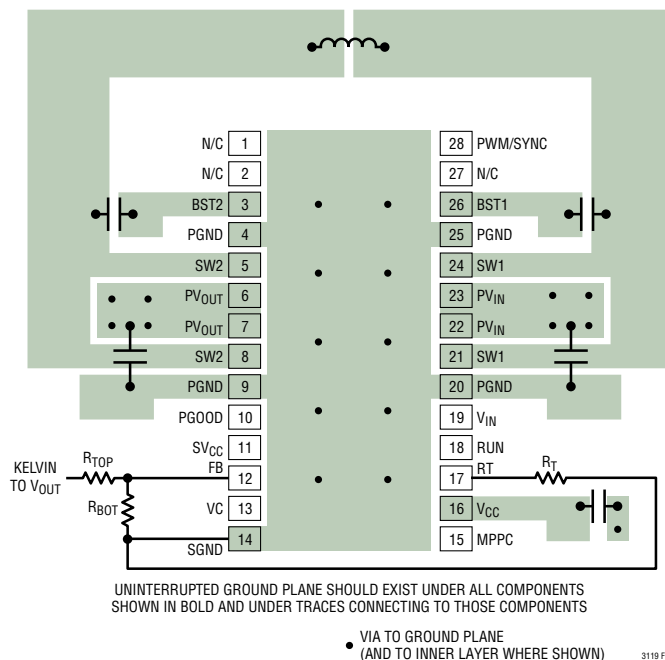

Figure 11. PCB Layout Recommended for the FE Package
The LTC3119 buck-boost converter switches large currents at high frequencies. Special attention should be paid to the PC board layout to ensure a stable, noise-free and efficient application circuit. Figures 11 and 12 show a representative PCB layout for each package option to outline some of the primary considerations. A few key guidelines are provided below:
1. The parasitic inductance and resistance of all circulating high current paths should be minimized. This can be accomplished by keeping the routes to all bold components in Figures 11 and 12 as short and as wide as possible. Capacitor ground connections should via down to the ground plane by way of the shortest route possible. The bypass capacitors on PV_{IN} , PV_{OUT} and V_{CC} should be placed as close to the IC as possible and should have the shortest possible paths to ground.
5. To prevent large circulating currents in the ground plane from disrupting operation of the LTC3119, all small-signal grounds should return directly to GND by way of a dedicated Kelvin route. This includes the ground connection for the RT pin resistor, and the ground connection for the feedback network as shown in Figures 11 and 12.